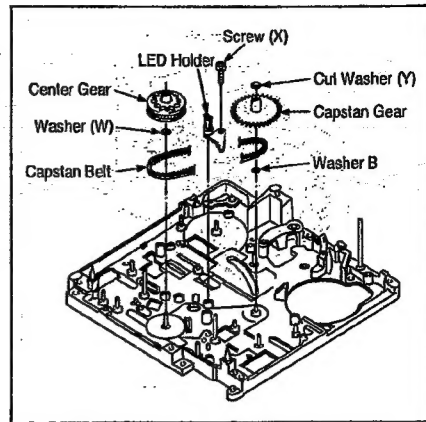
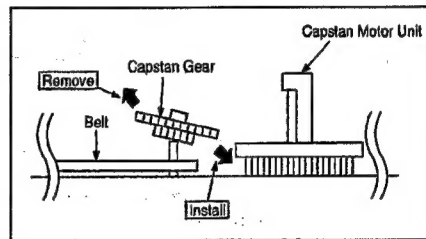
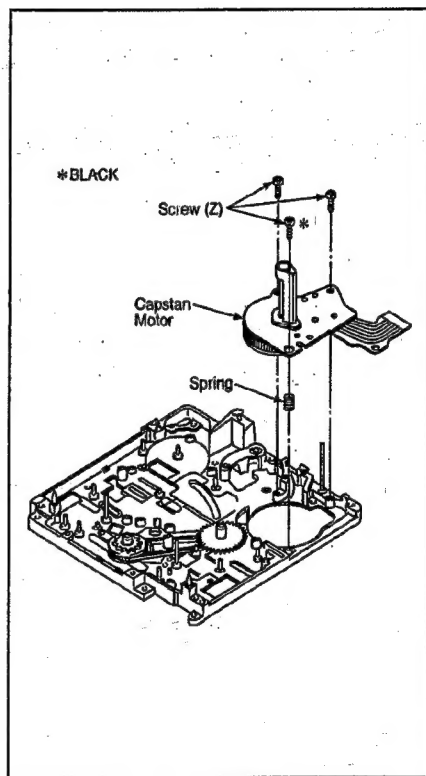

Fig. M34
Fig. M35
Fig. M36
- Fig. M34 Unhook the hooking portion (k') of the Pad Arm Spring.
- Fig. M35 Remove the Cut Washer (T) and Pad Arm Unit.
- Fig. M36 Confirm the hooking portion of the Pad Arm Spring (k — k').
19. Capstan Belt Fig. M34 Remove the Center Gear and Washer (W).
- Unscrew screw (X) and remove LED Holder.
- Remove Cut Washer (Y).
- Fig. M35 (Loosen a black screw on the Cap. Motor as shown in Fig. M36.) Slightly lift up in the direction and slowly remove the Capstan Gear. Do not bend the Capstan Shaft.
20. Capstan Motor Unit (Note of installation) Fig. M34 Unscrew 3 screws (Z) and remove Capstan Motor.